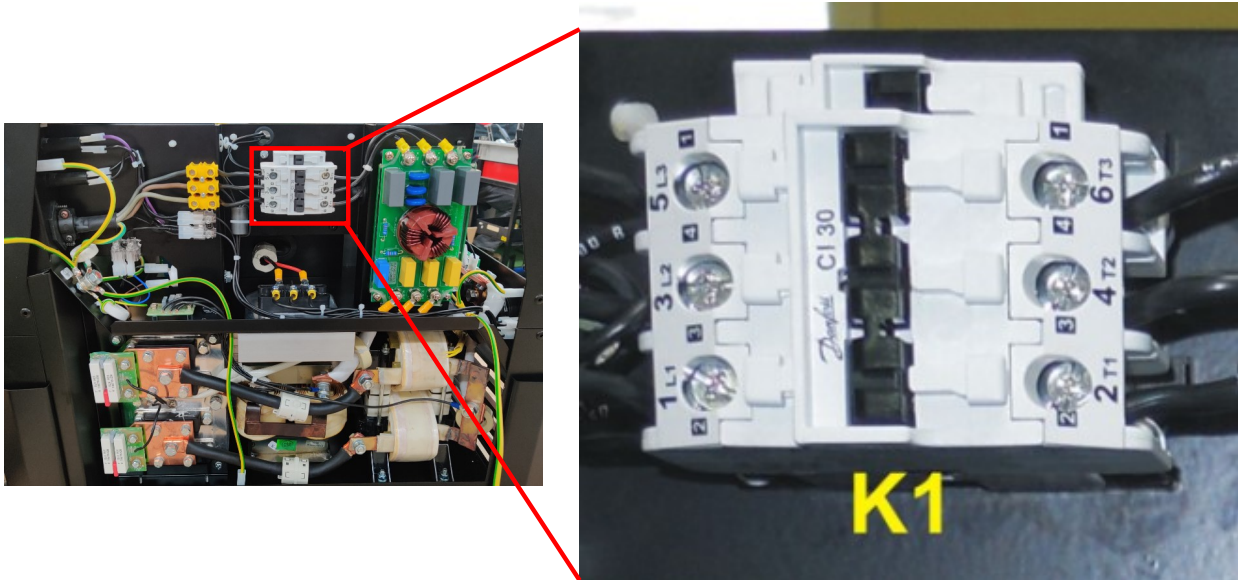

Figure 13
3. Locate the input contactor K1. See **Figure 13**
4. Using Phillips screwdriver PH02 remove and label the 3 input cables connected to the contactor terminals **1L1**, **3L2**, **5L3** and the 3 output cables connected to the contactor terminals **2T1**, **4T2**, **6T3**. See **Figure 13**